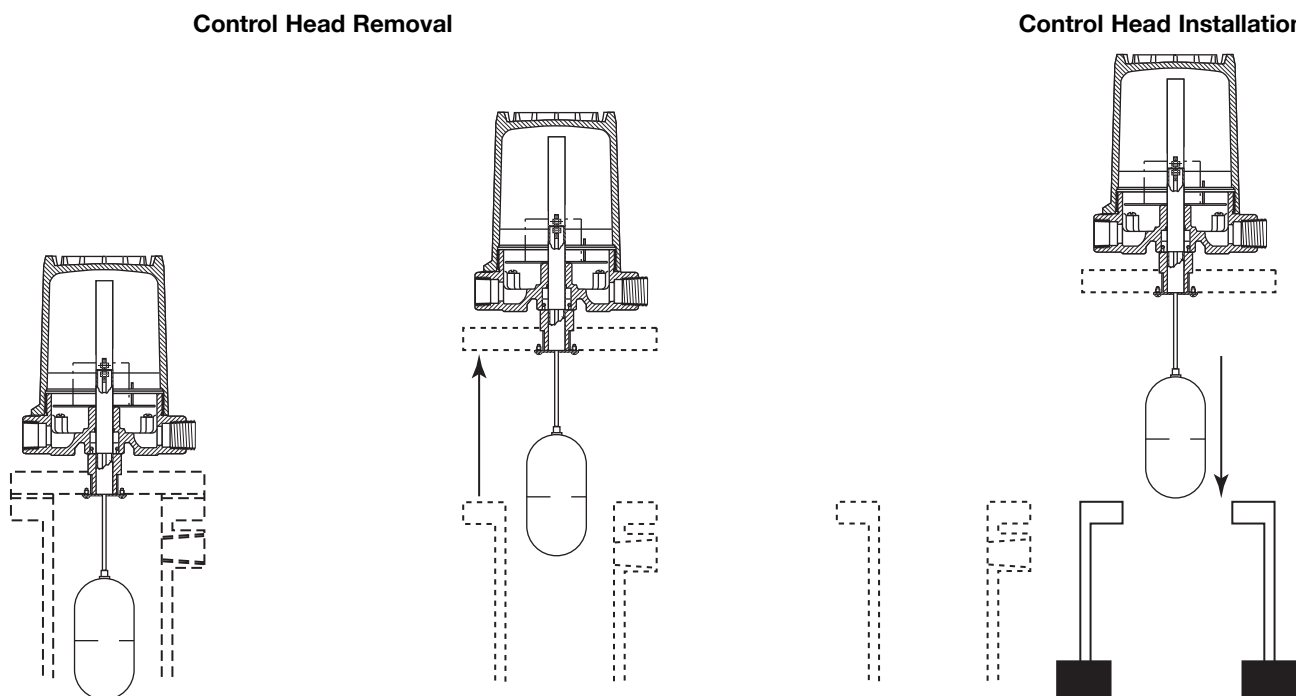

Figure 9
5. Prepare an area where the head assembly can be placed such that it rests on the flange in its normal orientation (two 2×4 boards placed across an open drum work well). Refer to **Figure 9**.
10. Replace the assembly onto the float cage keeping it as vertical as possible. Carefully lower the assembly into the chamber making sure that the stem does not become bent during installation. Refer to **Figure 9** on page 12.